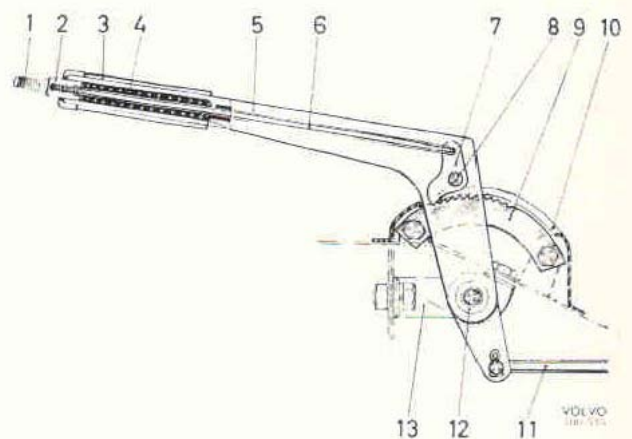

Fig. 51. Handbrake parts.
2. Remove the split pin and pull the cable so that the pull rod (11, Fig. 51) can be disconnected from the lever. Remove the bracket (13).
5. Screw out the locking screw and remove the loop (1, Fig. 51) and button (2). Take the spring (4) out of the lever. Remove the rivet (8) and take out the push rod (6) and pawl (7).
6. Fit the new parts in the reverse order, see Fig. 51. Make sure that the rivet is properly secured without the movement of the pawl being affected. Lubricate the bush with a thin coating of ball bearing grease. Do not forget to lock the pull rod and ensure that the rubber cover on the shaft seals properly.